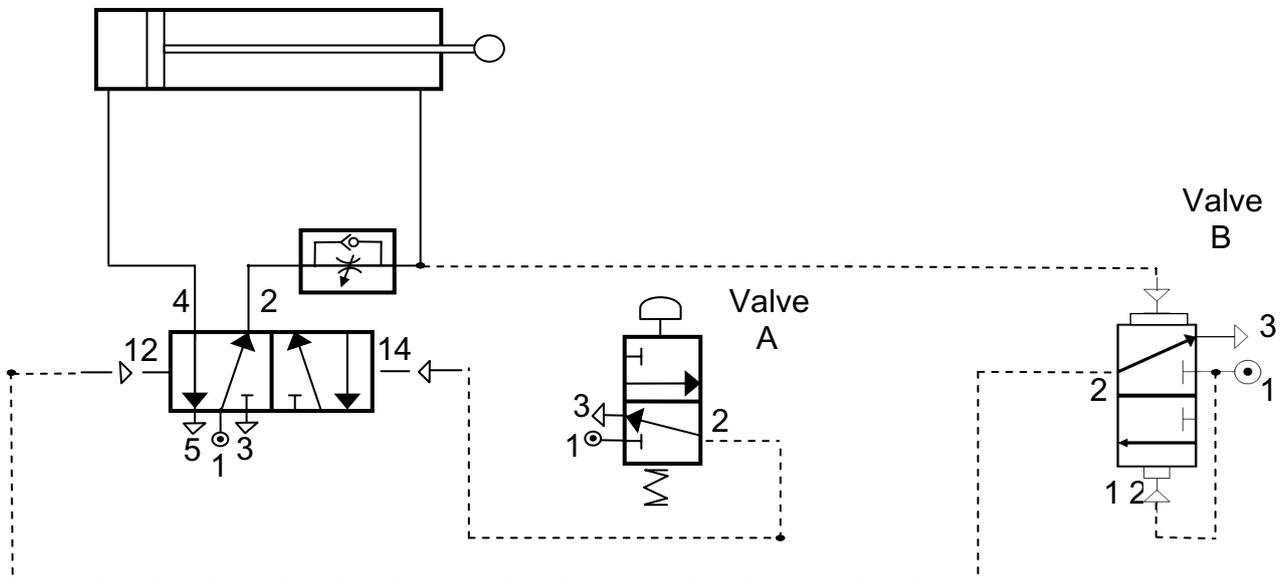

Fig. 4(b)
- (b) Fig. 4(b) below shows a circuit used to control a double acting cylinder for an industrial process.
- (i) Explain how the circuit in **Fig. 4(b)** operates starting from when valve A is pressed (your answer should include an explanation of all components). [4]